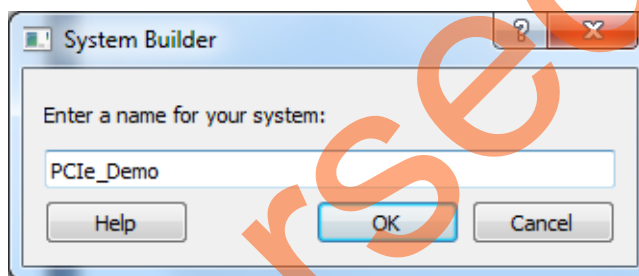

Figure 5 • Create New System Builder Dialog Box
7. Enter a name for your system as shown in Figure 5.